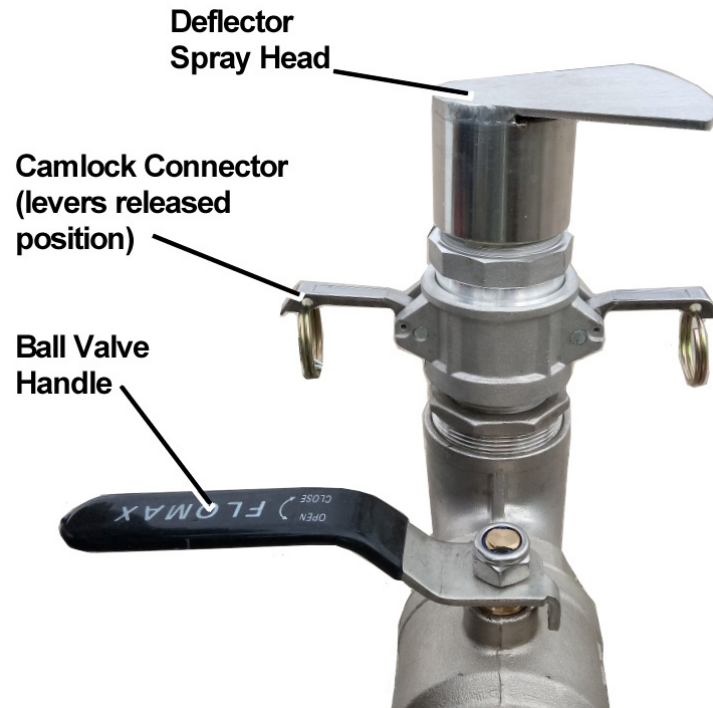

Figure 7 – Water Deflector Spray Head (optional)
- If required, release the camlock connector to rotate the deflector spray head to the desired angle, refer to Figure 7. Lock the spray head back into place, ensuring the camlock levers are fully home.